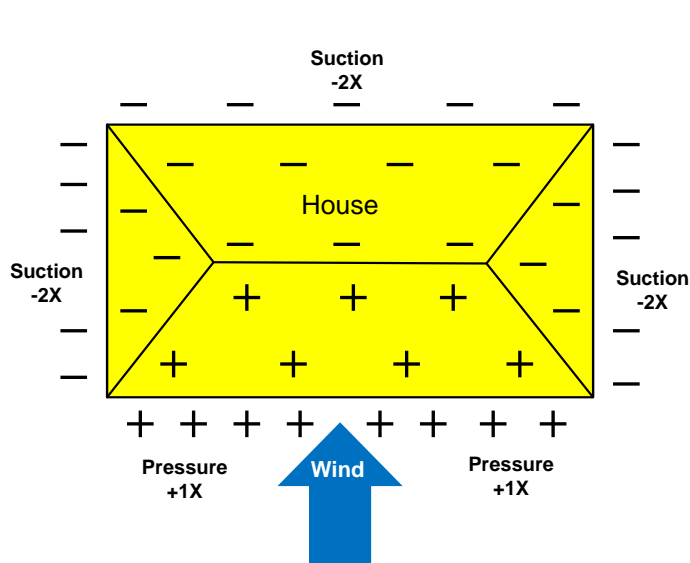
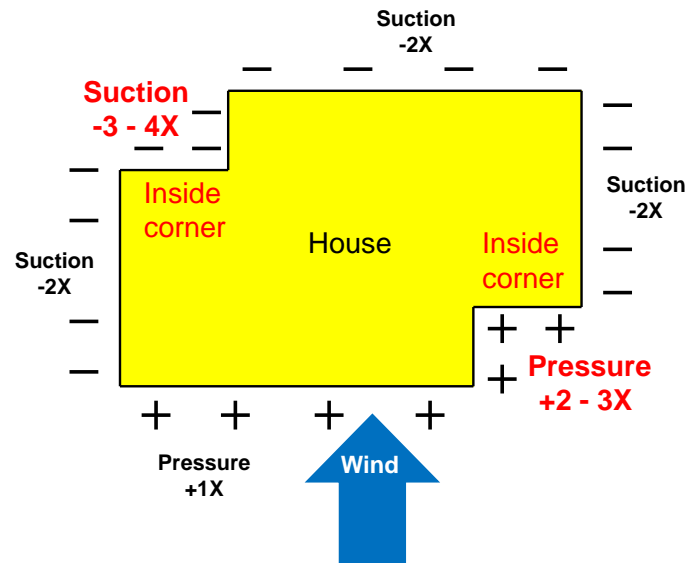

Figure 5: Pressure Fields Created by Wind
Figure 6: Pressure on Inside Corners from Wind
Wind creates a positive pressure field on the wall perpendicular to wind direction. The three remaining walls are under a negative pressure (suction). See Figure 5. Inside corners increase the wind pressure/suction effect 2 - 4 times greater than the pressure applied to the wall perpendicular to the wind. See Figure 6. Topographical features such as hills, trees and other structures can further amplify pressure/suction fields as much as eight (8) times around the vent and combustion air terminations. These pressure/suction fields act on the vent and combustion air system. **Special consideration must be given to locate the vent and combustion air terminations in a low magnitude pressure/suction field when a side wall termination is desired.**